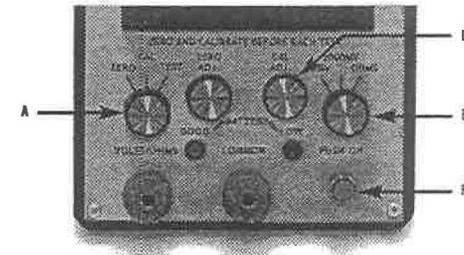

Figure 6
1. With the function knob (A) on **CAL** and the range knob (E) on the appropriate range, press and hold the **ON** pushbutton (F), using the **CAL ADJ.** knob (D) to bring the meter to a calibrate reading. See Figure 6.
4. Pressing the **ON** pushbutton (F), the resistance measurement may be read on the lower meter scale. A reading greater than 0.5 ohms will read off scale to the right. See Figures 6 and 7.
2. Place the function knob (A) on TEST and the range knob (E) on either 50MV or 1000MV.
3. Make the required connections using the special leads (I) provided. (See the note below.)
4. Pressing the ON pushbutton (F), the required ground voltage measurement can be made.
5. The true R.M.S. voltage is read on the upper meter scales. A voltage greater than the range will read off scale to the right. See Figures 6 and 7.